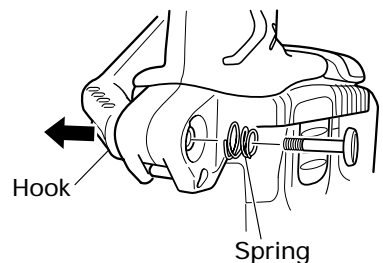

Fig. 11
- Remove the hook and spring. (Fig. 11)